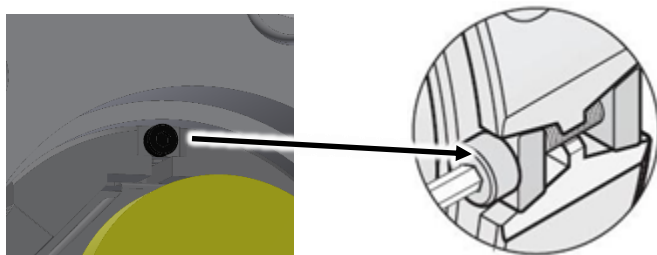

Figure 18
3. Loosen the encoder locking screw M2.5, with hex wrench (2 mm) through encoder mounting plate port shown in Figure 18. The screw does not need to be removed.